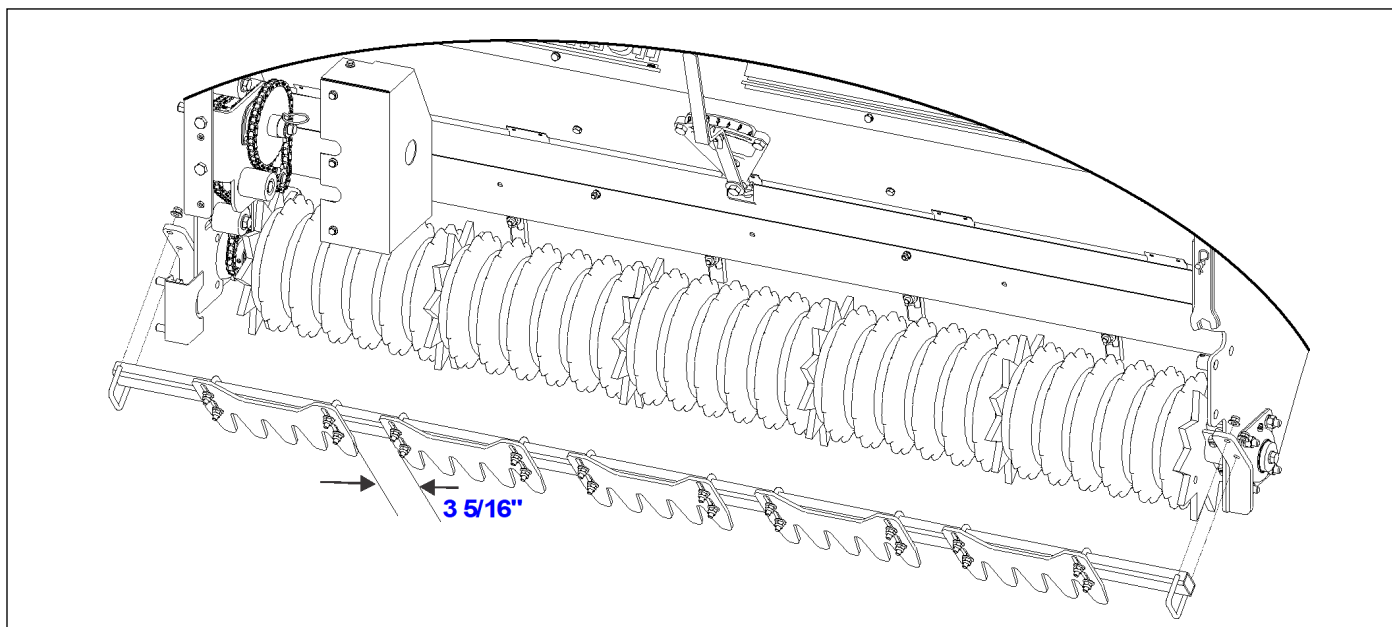

Figure 3-12: Positive Drive Roller
6. Reinstall scraper assembly to seeder and fine tune scraper adjustment. Tighten scraper hardware with roller lowered on level surface. **See Figure 3-12..**